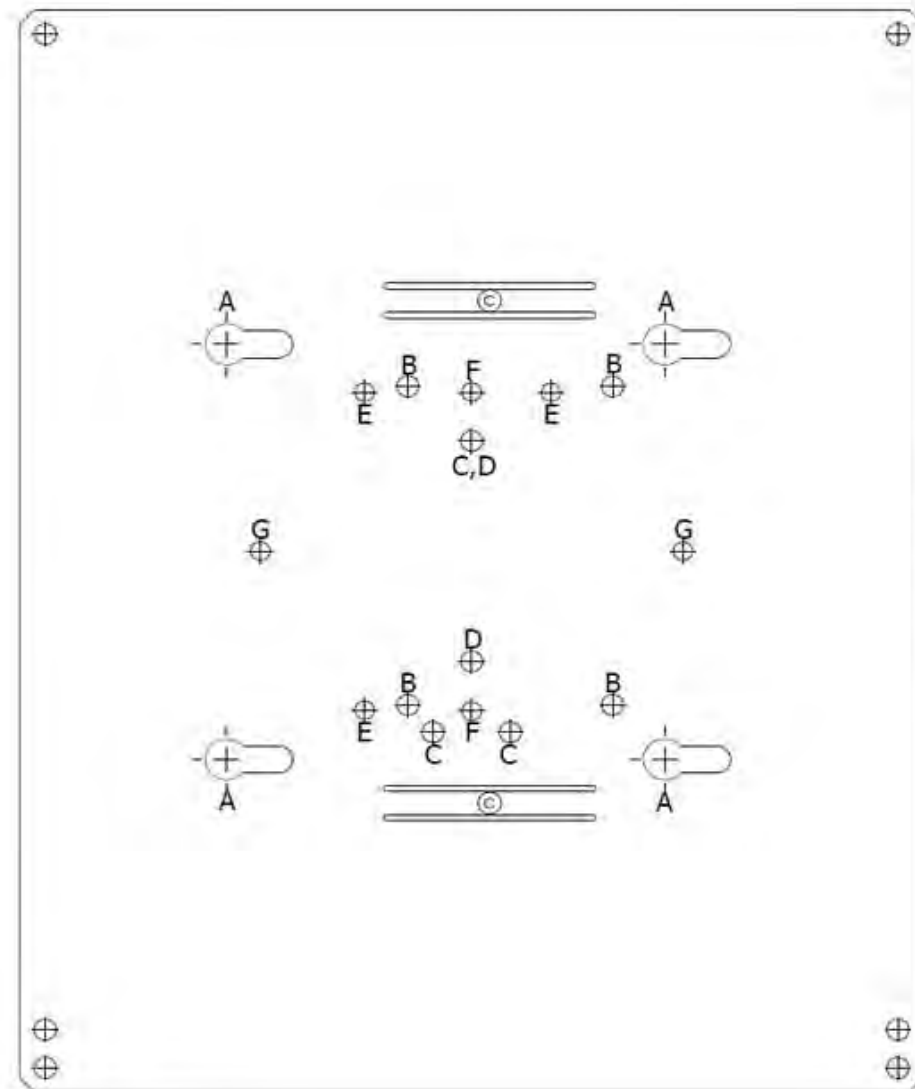

Figure 4
Step 2 – Use the *mounting hole legend* to determine the mounting hole locations for the type of *access point* chosen. Securely fasten the *access point's mounting bracket* to the enclosure's universal mounting plate using (4) #6-32 screws or (4) #8-32 screws as defined by the mounting hole legend (Figure 4). **Cisco AIR-AP-BRACKET-1 is used for Cisco 1040, 1140, 1260, 3500, and 3600 series APs.**
Step 3 – Secure the mounting feet to the back of the enclosure with the four (4) #8-32 screws.